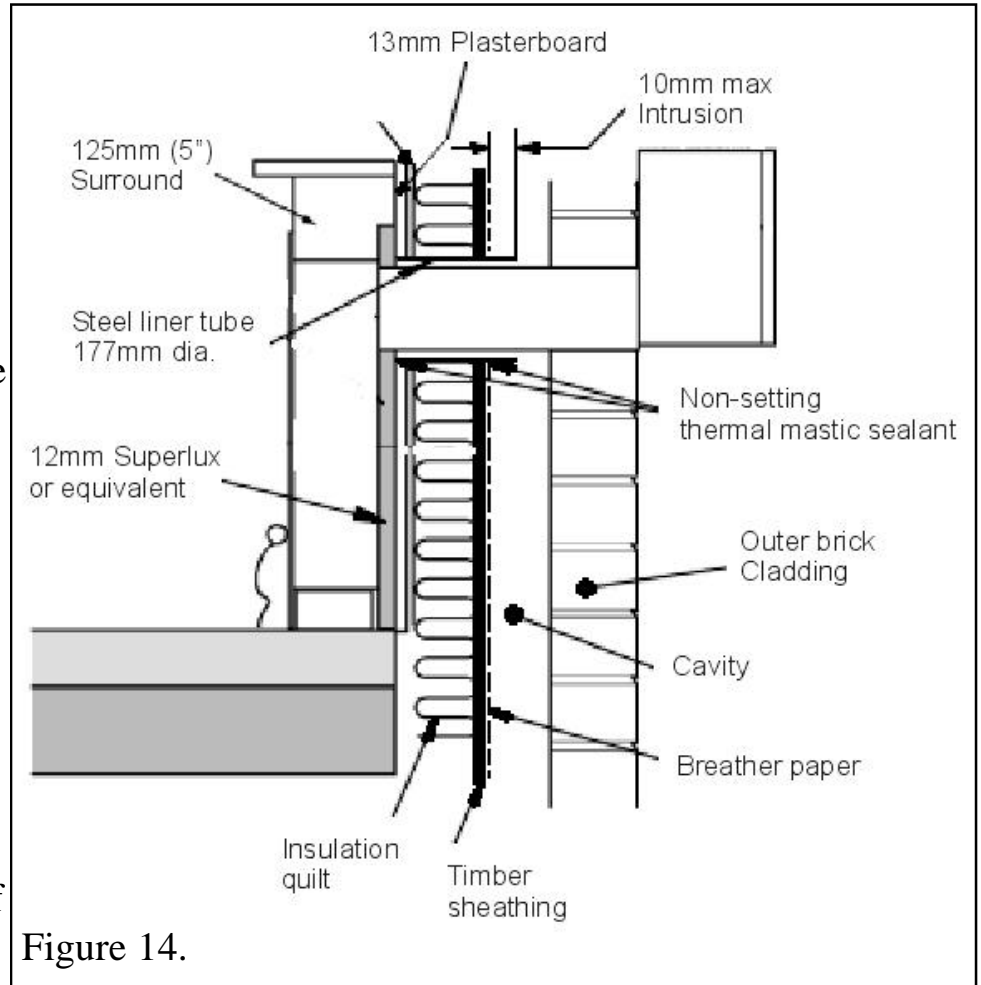

Figure 14.
1. Building regulations require that the outer surface of the flue tube and terminal must not be closer than 25mm to combustible material and must be lined with steel sleeve not less than 0.5mm thick (See figure 14). The sleeve can be made by coiling a piece of sheet steel to between 125mm & 127mm outside dia. and fitting it to the combustible parts of the construction.
This can consist of the usual 13mm plasterboard wall lining plus 12mm of “Superlux” or similar non-combustible material (See figure 14).